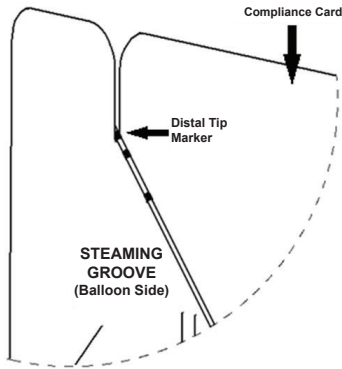

Figure 2 Straight Configuration
- Place the distal tip marker band with bend at the bottom and inside of the steam groove. (see Figure 2)
- Place the distal tip marker band at the bottom and inside of the steam groove. (see Figure 2)